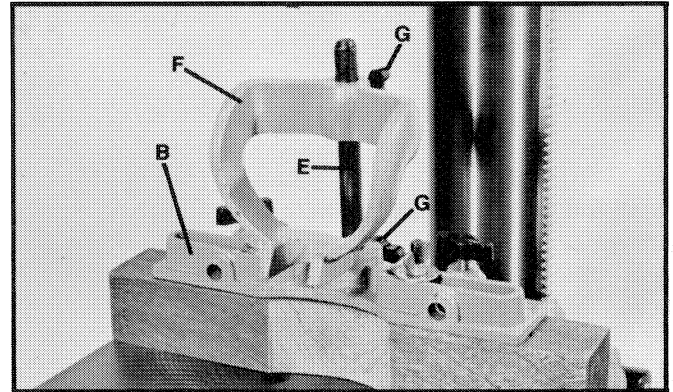

Fig. 12
2. Assemble the vertical bar (E) to the hole in the hold-down bracket (B) and assemble the hold-down arm (F) to the vertical bar, as shown in Fig. 12. Lock in place with the two thumb screws (G).